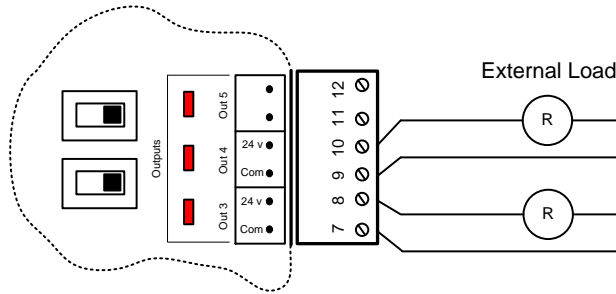

Figure 12: Connection of active outputs 3 and 4
- 1) Active outputs. The VC1000 is actively powering the load. (see Figure 12)